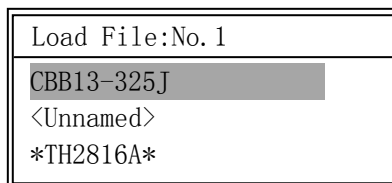

Figure 4-9. Available Files Message Window
- 2) Press **LOAD**. The message of available file(s) will be listed in the message window as shown in Figure 4-9.